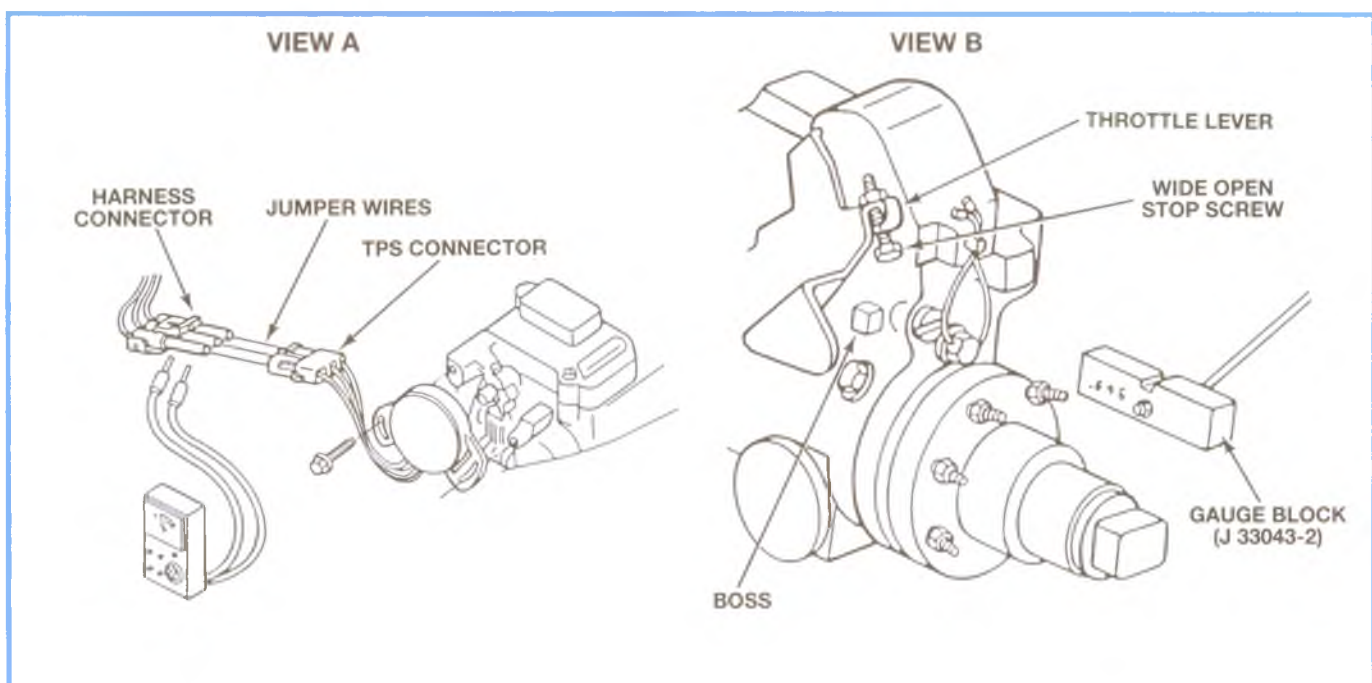

Figure 8-35, TPS Adjustment Steps
- Install jumper wires between the TPS and vehicle wiring harness (see Figure 8-35, view A).
- Install a gauge block (16.5mm [0.646-in.] thickness) between the injection pump throttle lever and the casting boss on the injection pump housing (see Figure 8-35, view B).